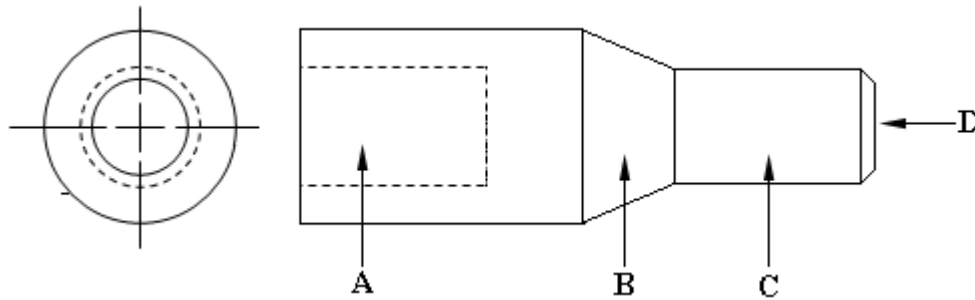

Figure 3
6. Figure 3 shows a workpiece produced by using a lathe machine. State the process of the machine in producing parts labeled A, B, C and D in the provided spaces.